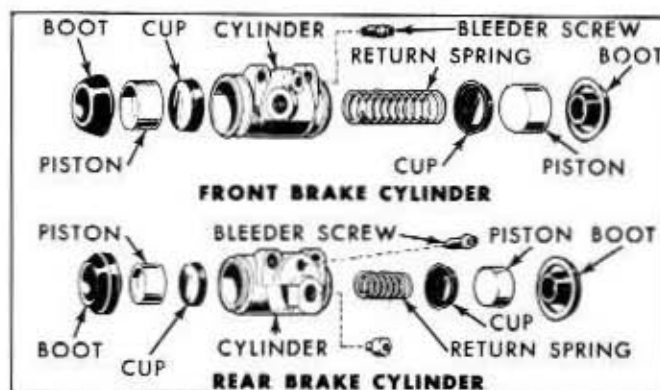

Fig. 2-12—Front and Rear Brake Cylinders—(60C-2012)
1. Refer to figure 2-12. Remove the rubber boots. Remove the pistons, cups, and return spring from the cylinder bore.
1. Refer to figure 2-12. Apply a coating of heavy-duty brake fluid to all internal parts.